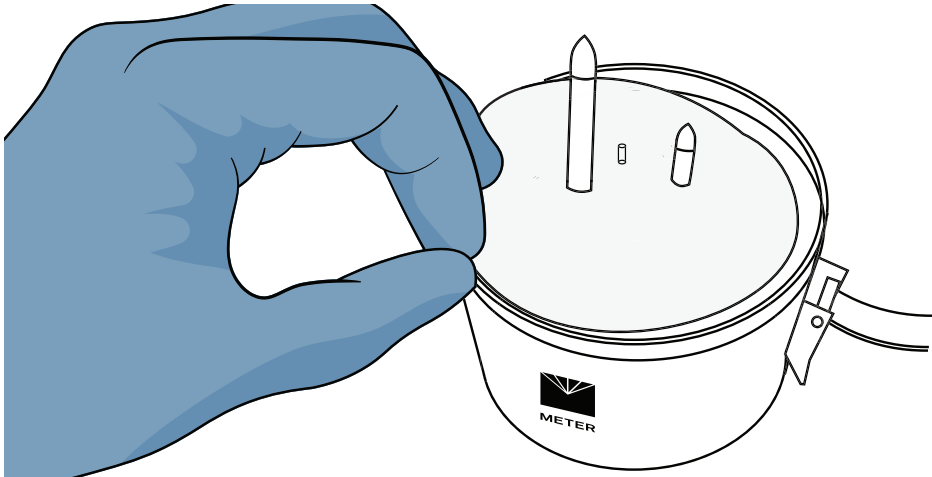

Figure 44 Silicone disk
- Place the silicone disk on the sensor unit and remove any air between the surface and the disk (Figure 44).